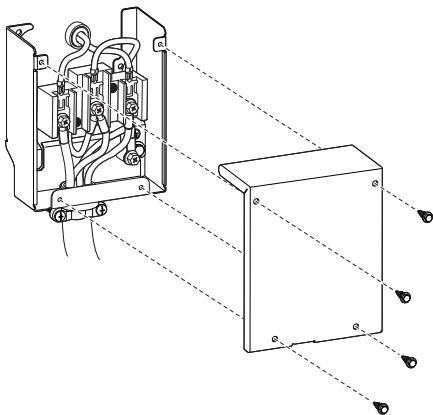

Figure 3 - Remove the cover plate
2. Remove the cover plate from the lower left corner of the back of the dryer. See figure 3.